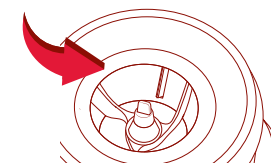

Figure 3
- To Remove the Shaving Paddle: Turn shaving paddle locking knob counter-clockwise until shaving paddle releases. *Figure 3*